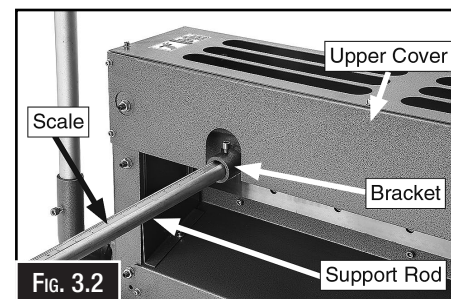

Fig. 3.2
1. Slide the support rod into each bracket with the measurement scale facing up. (Fig. 3.2)